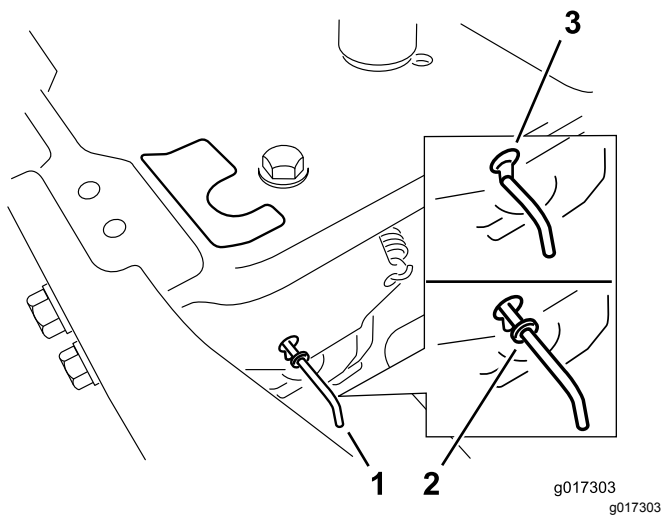

Figure 19
4. Move the bypass levers forward through the keyhole and down to lock them in place (Figure 19).
Move the bypass levers rearward through the keyhole and down to lock them in place as shown in Figure 19.